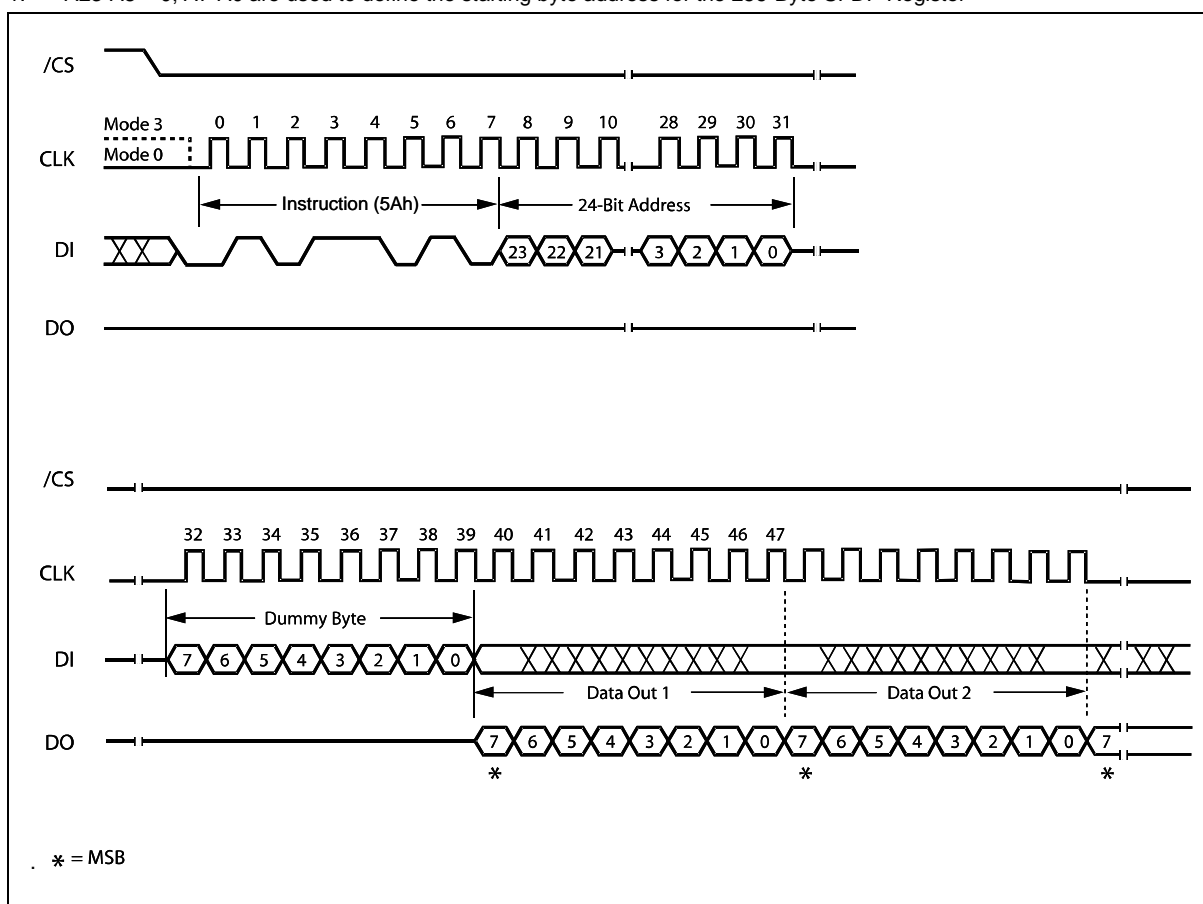

Figure 31b. Read SFDP Register Instruction Sequence Diagram
The Read SFDP instruction is initiated by driving the /CS pin low and shifting the instruction code “5Ah” followed by a 24-bit address (A23-A0)(1) into the DI pin. Eight “dummy” clocks are also required before the SFDP register contents are shifted out on the falling edge of the 40th CLK with most significant bit (MSB) first as shown in figure 31b. For SFDP register values and descriptions, refer to the following SFDP Definition table.